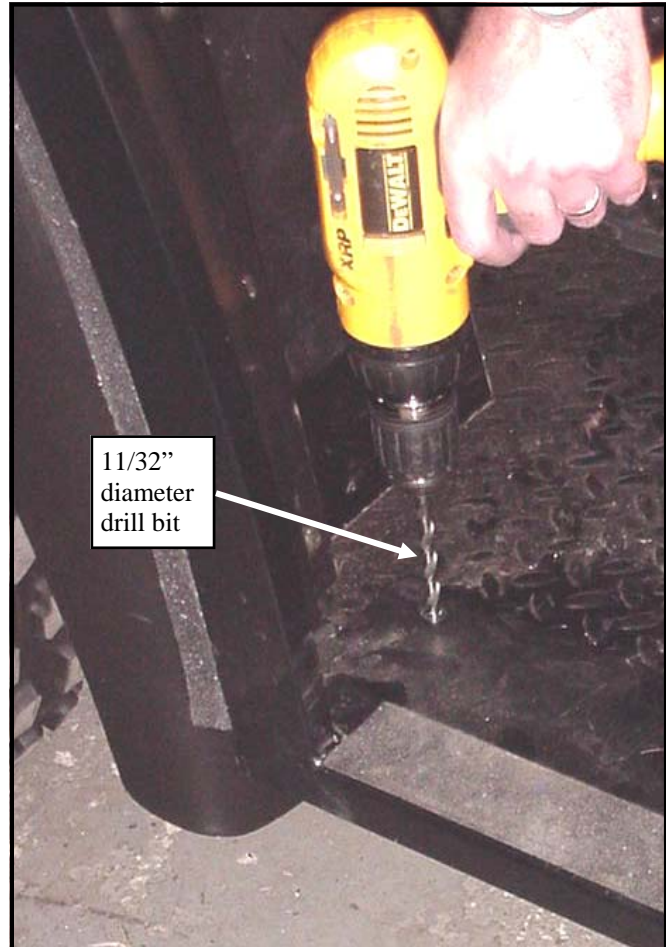

Fig. 11.2
11.2 Drill an 11/32" diameter hole through the vehicle floorboards using the square holes in the side frame floorboard as guides per Fig. 11.2. A total of four holes will need to be drilled (two per side).